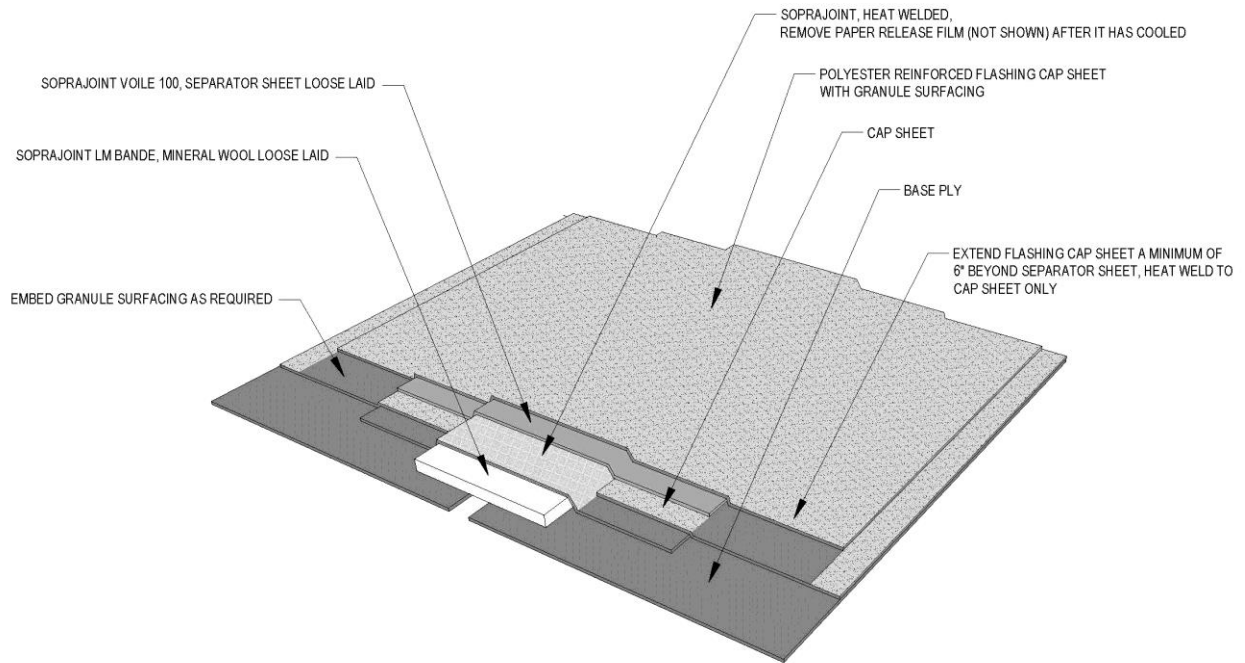
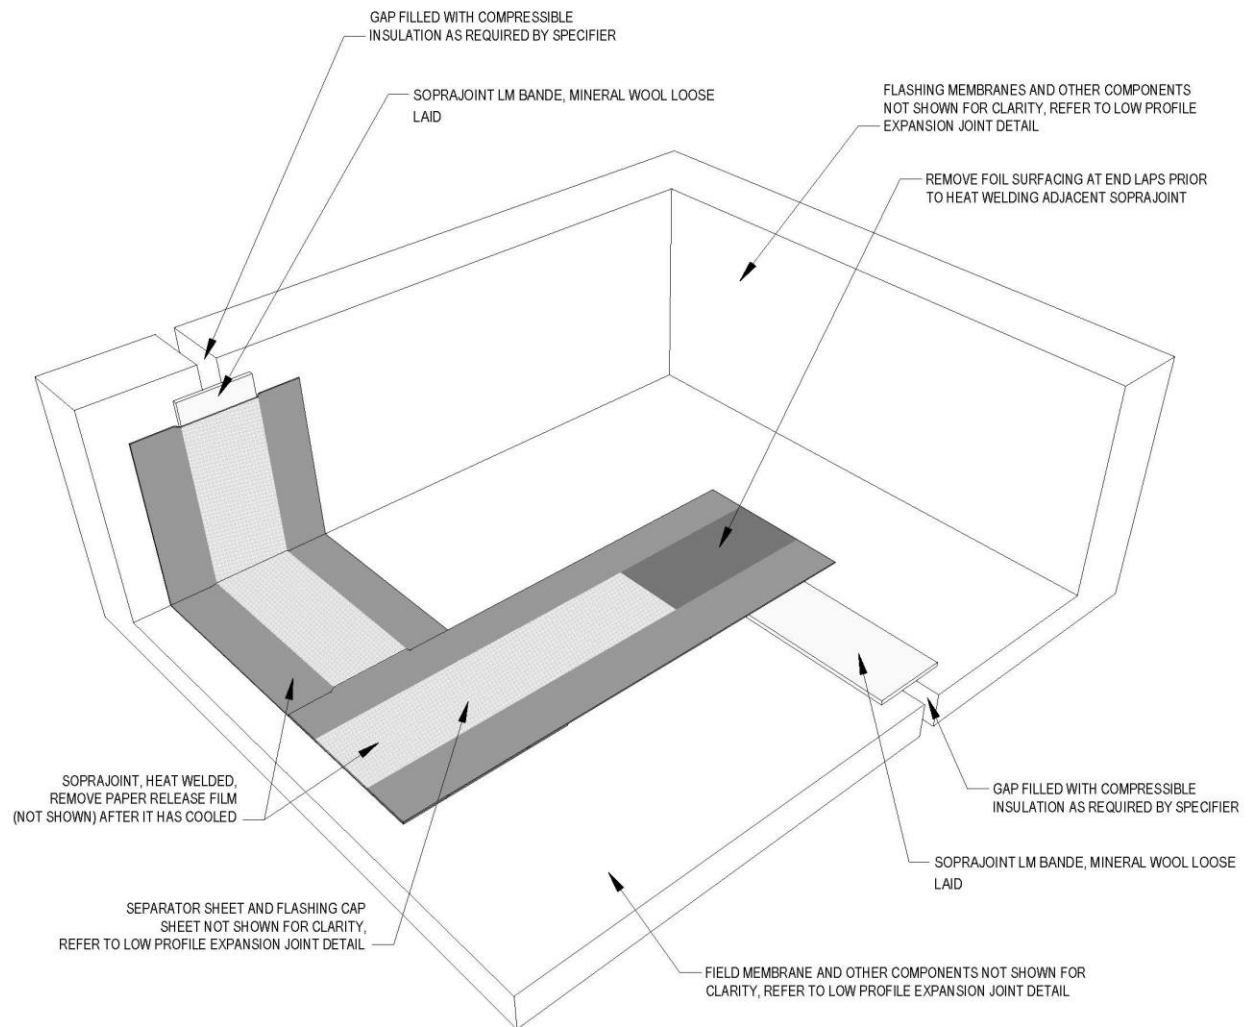

Figure 5.4a SOPRAJOINT® On Adhered SBS Membrane With Granule Cap Sheet
Figure 5.4e SOPRAJOINT® Transitions
- SOPREMA® SOPRAJOINT® is a polyester reinforced SBS modified bitumen expansion joint used for low profile expansion joint applications. Refer to Figures 5.4a through 5.4d. Refer to Figure 5.4e for recommended expansion joint applications and transitions.
- Remove reflective film from SOPRAJOINT® at end laps and transitions before installing adjacent SOPRAJOINT® sections. Refer to Figure 5.4e.